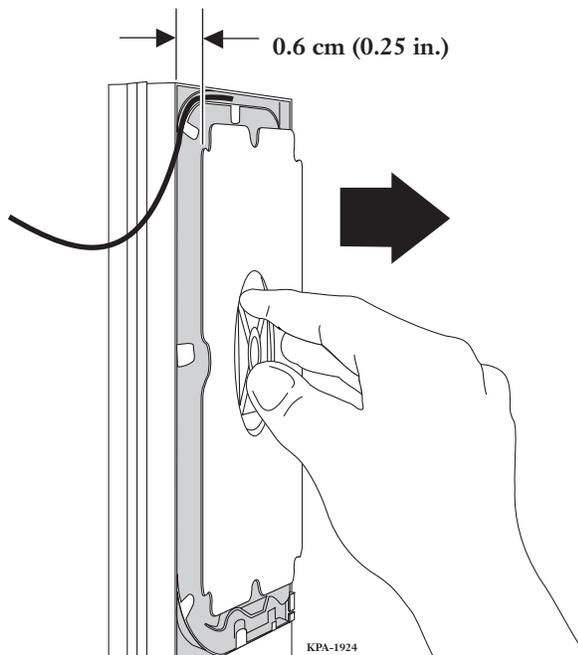

Figure 38
Step 2: Raise guard into open position (Figure 38). Do not remove.